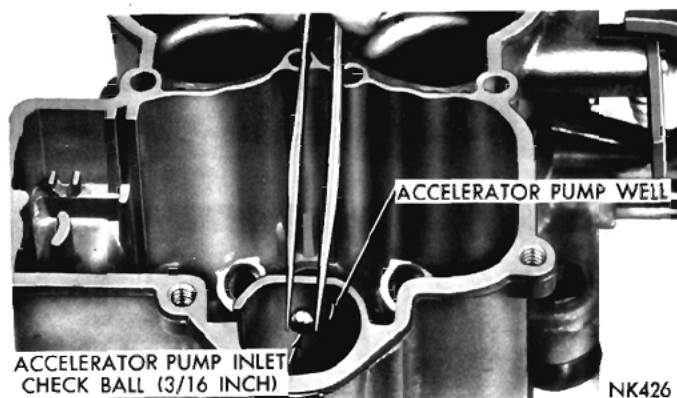

Fig. 12—Installing Accelerator Pump Inlet Check Ball
(4) Install the accelerator pump inlet check ball ( $\frac{3}{16}$  inch) in the pump well, as shown in (Fig. 12).